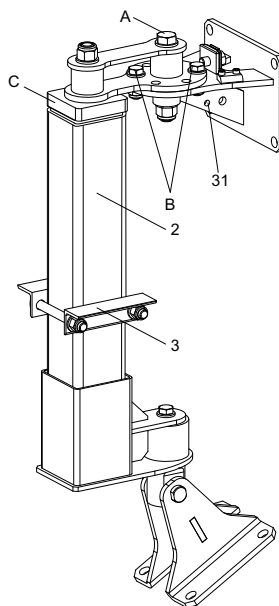

Fig. 9 Fixation
7. Position and align the column profile in the bottom fixation bracket. Shorten the column profile (pos. 2) to the correct length to match the position of the insulator (pos. C) at the top fixation bracket. A gap of 5 to 10 mm between collar of insulator and column profile is optimal. See fig. 9.